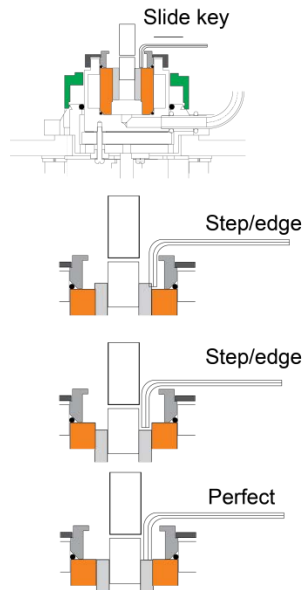

Figure 15: Feeling for Step
1. Adjust the vertical position of the rotor until it is flush with the top of the stator. Feel for the “step” between the top of the rotor and the stator using the end of a small Allen key. Refer to Figure 15.